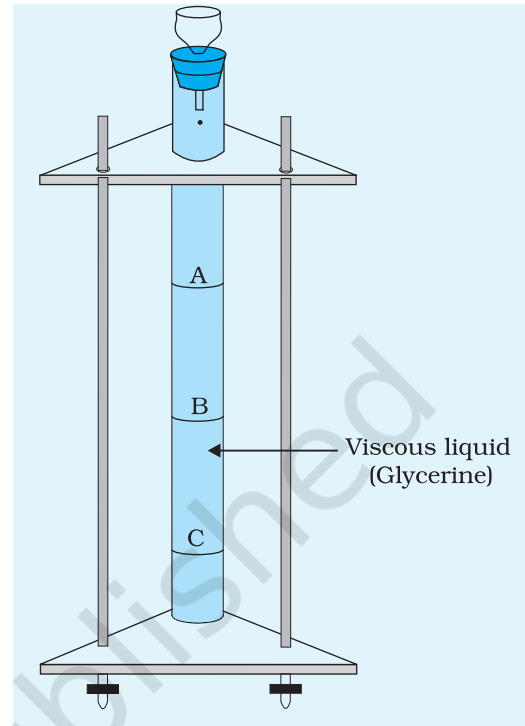

Fig.E 13.3: Steel ball falling along the axis of the tube filled with a viscous liquid.
3. Take a wide bore tube of transparent glass/acrylic (of diameter about 4 cm and of length approximately 1.25 m). Fit a rubber stopper at one end of the wide tube and ensure that it is airtight. Fill it with the given transparent viscous liquid (say glycerine). Fix the tube vertically in the clamp stand as shown in Fig. E 13.3. Ensure that there is no air bubble inside the viscous liquid in the wide bore tube.
4. Put three rubber bands A, B, and C around the wide bore tube dividing it into four portions (Fig. E 13.3), such that $AB = BC$, each about 30 cm. The rubber band A should be around 40 cm below the mouth of the wide bore tube (length sufficient to allow the ball to attain terminal velocity).
6. Fix a short inlet tube vertically at the open end of the wide tube through a rubber stopper fixed to it. Alternately one can also use a glass funnel instead of an inlet tube as shown in Fig. E 13.3. With the help of forceps hold one of the balls of radius r_1 near the top of tube. Allow the ball to fall freely. The ball, after passing through the inlet tube, will fall along the axis of the liquid column.